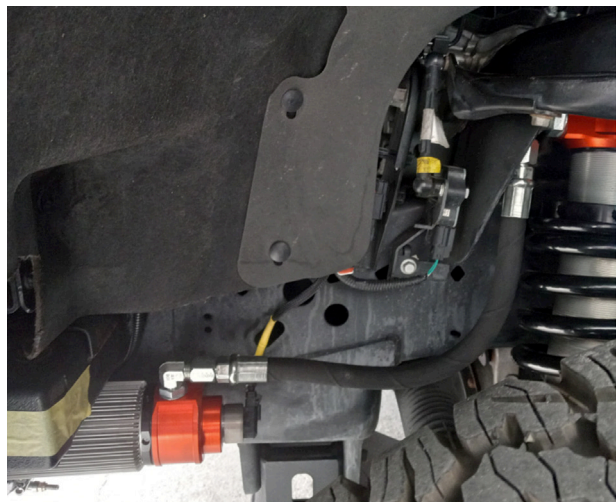

Fig. 18: Connect electrical connector.
9. If the wire harness is installed at this point, connect the electrical connector to the solenoid valve (Fig. 18).